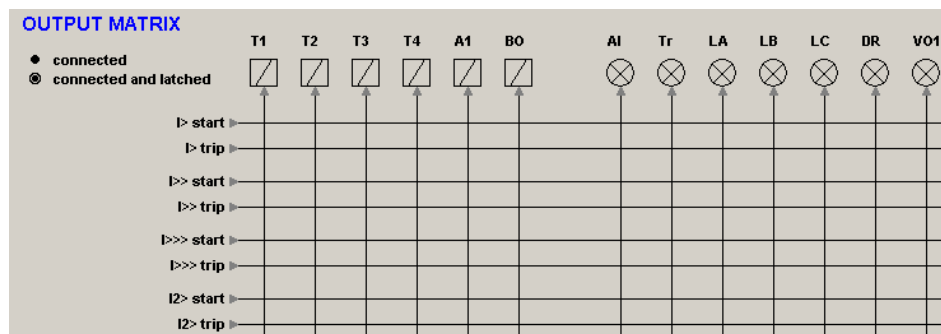

Figure 5.4-1 Output matrix.
There are two LED indicators named "Alarm" and "Trip" on the front panel. Furthermore there are six general purpose LED indicators – "A", "B", "C", "D", "E" and "F" – available for customer-specific indications. In addition, the triggering of the disturbance recorder (DR) and virtual outputs are configurable in the output matrix. See an example in Figure 5.4-1.